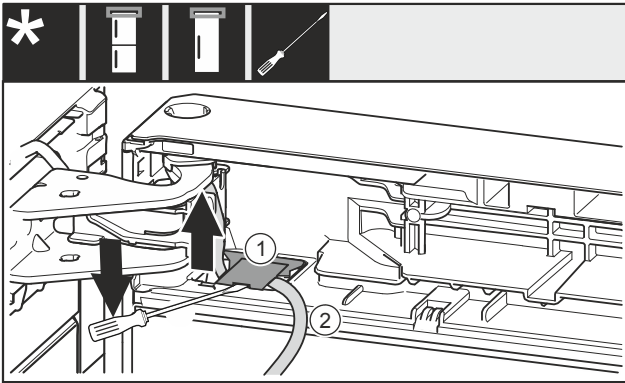

Fig. 16
- ▶ Use the slotted screwdriver to lift the cover Fig. 16 (1) up and pull it out.
- ▶ Pull out the cable Fig. 16 (2).